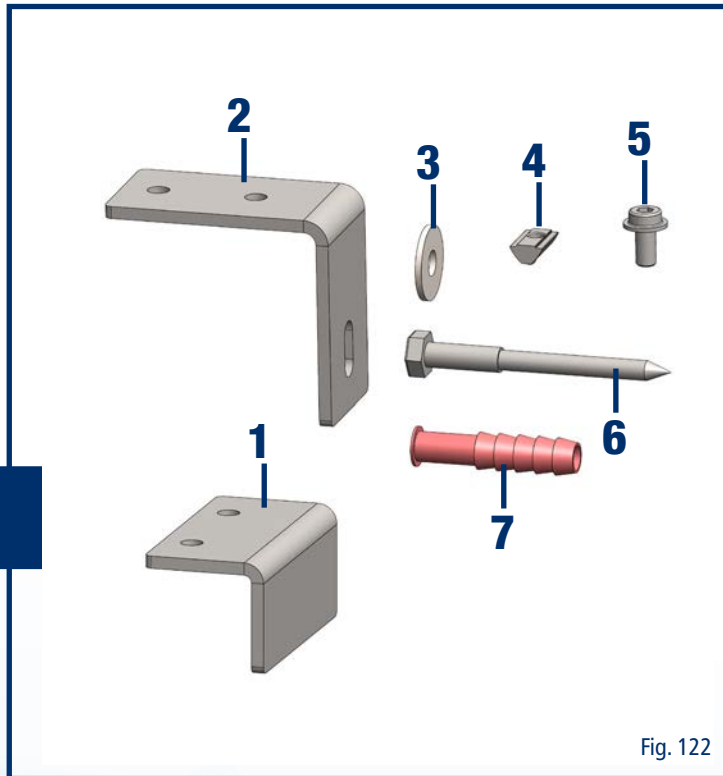
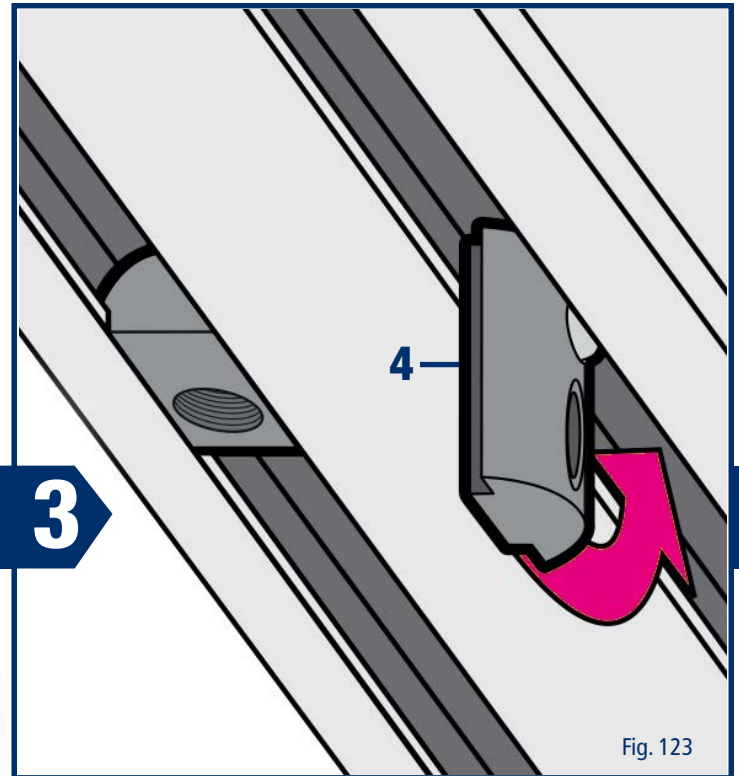

Fig. 122
Fig. 123
- 2x spacer brackets (1)
- 4x mounting brackets (3)
- 4x washers (3)
- 12x T-nuts with ball (4)
- 12x hexagon socket shoulder screws (5)
- 4x wood screws (6)
- 4x nylon anchors (7)
Insert the required T-nuts (Fig. 122, item 4) into the grooves of the aluminium profiles, as shown in Fig. 123.